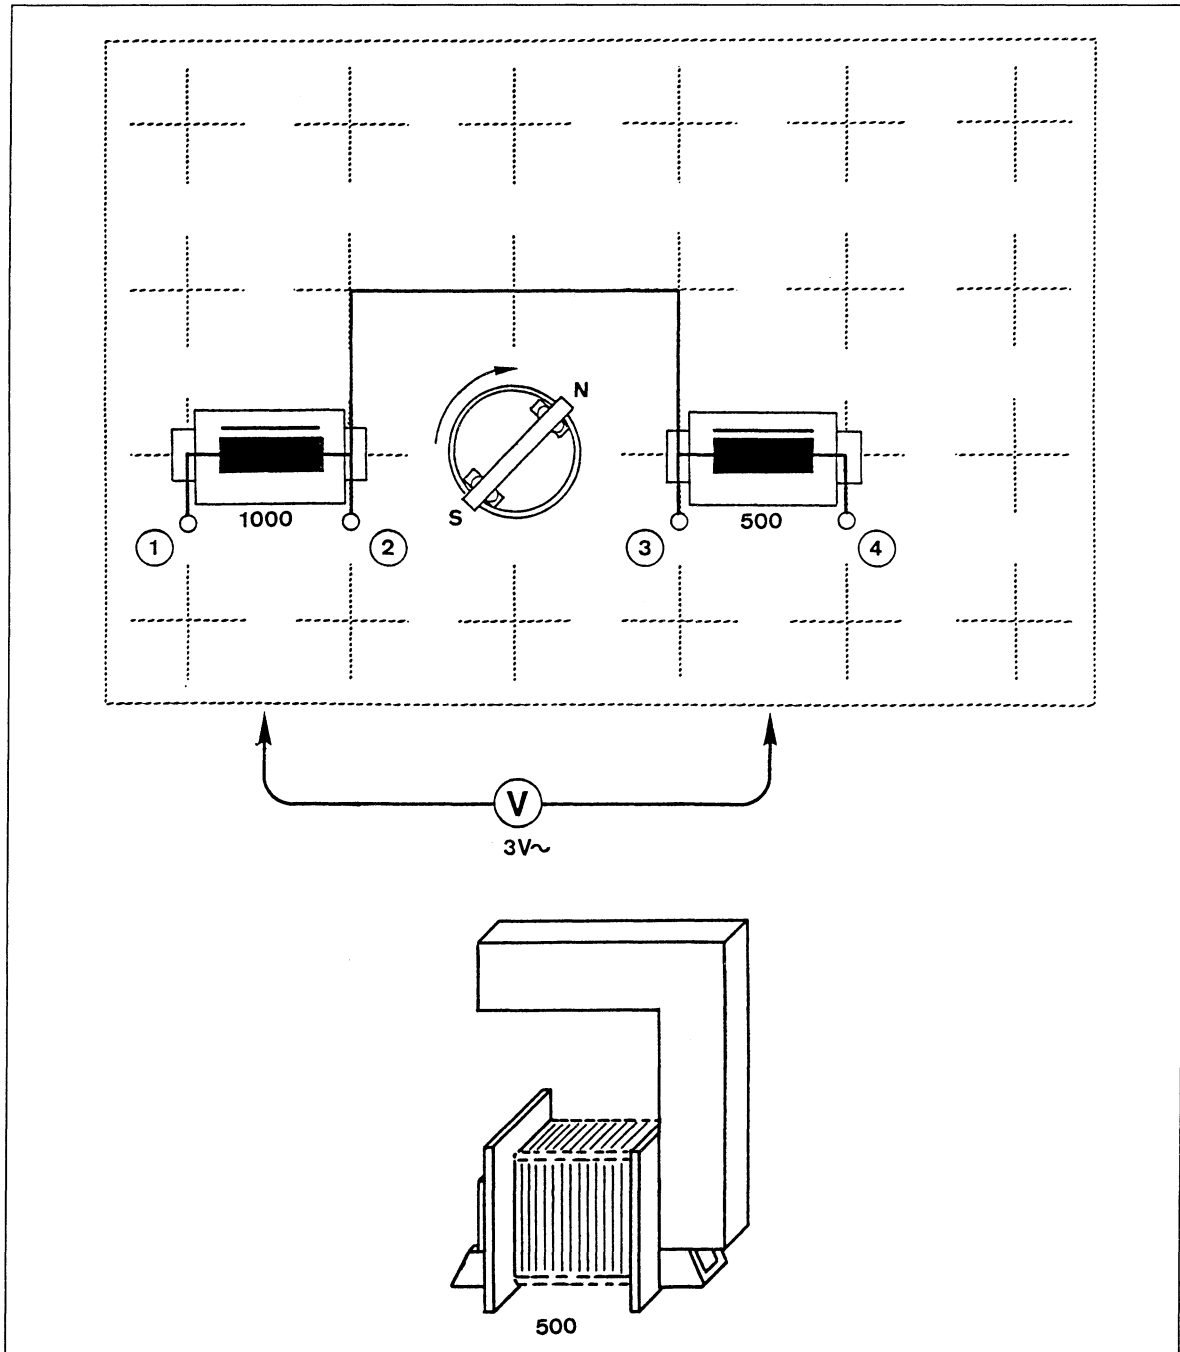

Fig. 2 Experiment setup for the model of an AC generator with two coils
13. Set up the circuit as shown in Fig. 2. Insert the I-core in the coil with 1000 turns. Slide one arm of the U-core into the coil with 500 turns.
15. Between which connection points in the circuit from Fig. 2 is the voltage greatest?